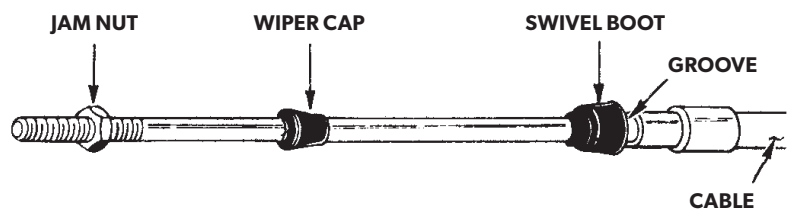

Figure 1.
1. Remove jam nut, wiper cap, and swivel boot from one end of each cable (see figure 1). Save jam nut and wiper cap for re-use.